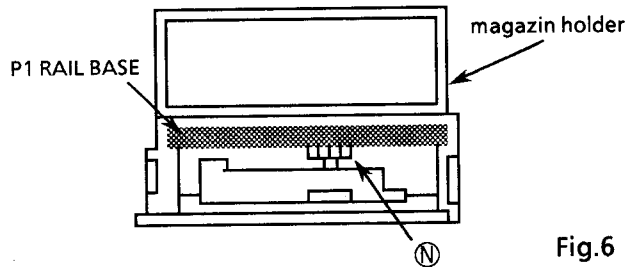

Fig.6
8. Removing the P1 RAIL BASE Ass'y (Fig.6,8)
- 1) Rotate the gear (N) clockwise a little.
- 3) Remove the screw (O).
9. Removing the P1 RAIL BASE (Fig.6,7,8)